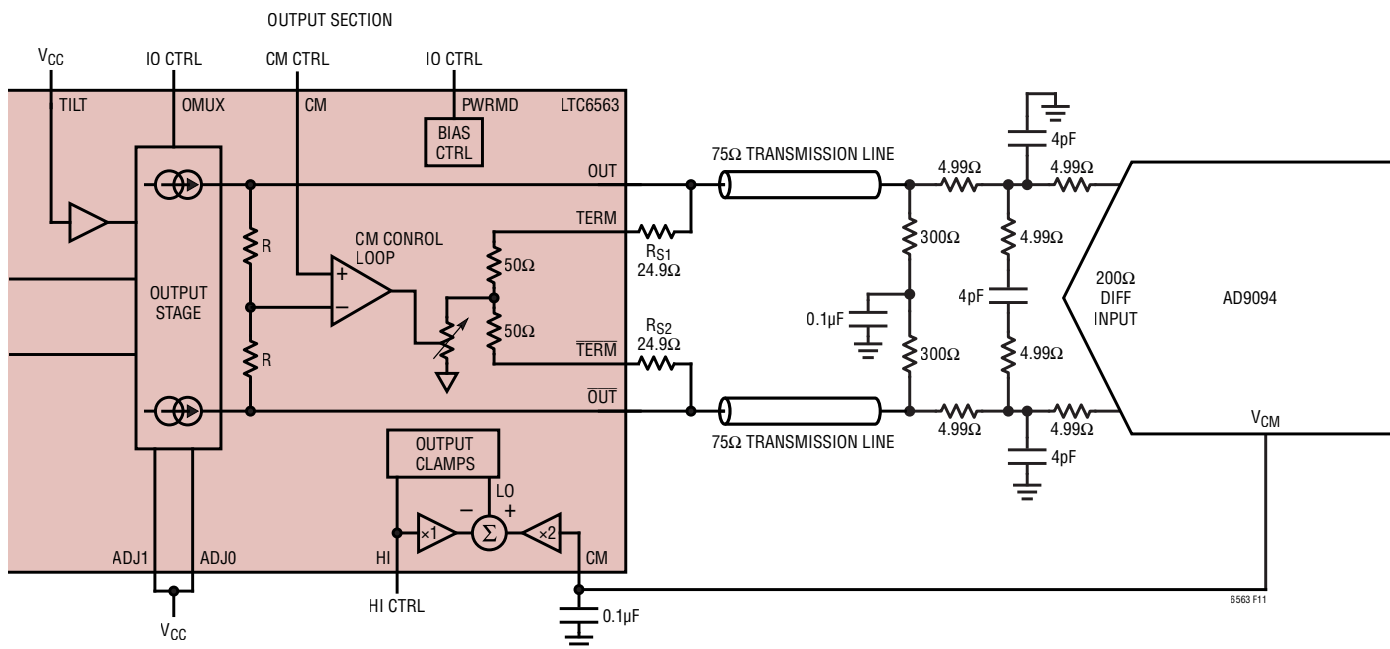
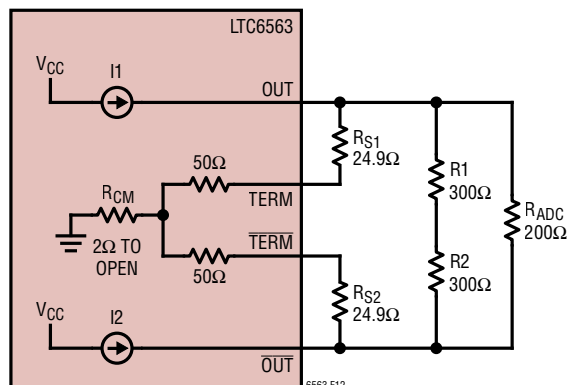

Figure 11. Increasing Diff Load Resistance and Matching to 75Ω
Figure 12. TIA 75Ω Matched Load Equivalent Circuit
Consider the configuration shown in Figure 11 schematic. The output impedance of the LTC6563 is raised to 75Ω by adding 24.9Ω resistors in series with the internal 50Ω TERM resistors. The TIA now presents an output impedance that matches the 75Ω transmission line as well as the net ADC-side SE impedance. The transmission line ADC-side impedance can be calculated by:
Let's now take a look at the output CM voltage that pertains to the schematic of Figure 11, simplified in Figure 12:
Table 6 shows the computed minimum CM voltage, TIA gain (RT), and ADC FS diff voltage swing for various ADJ settings applied to the Figure 11 configuration.
Here is a sample calculation of the values in Table 6, related to the Figure 11 schematic, for ADJ 00 as an illustration:
In the Figure 11 schematic and tabulated results in Table 6, the ADJ 11 setting's Min CM voltage is too high to be usable. Thus, the technique of lowering CM voltage (Detailed Example 2) discussed earlier can be employed
Table 6. CM Minimum Voltage and Other Operating Performance Values for Various ADJ Settings of Figure 11